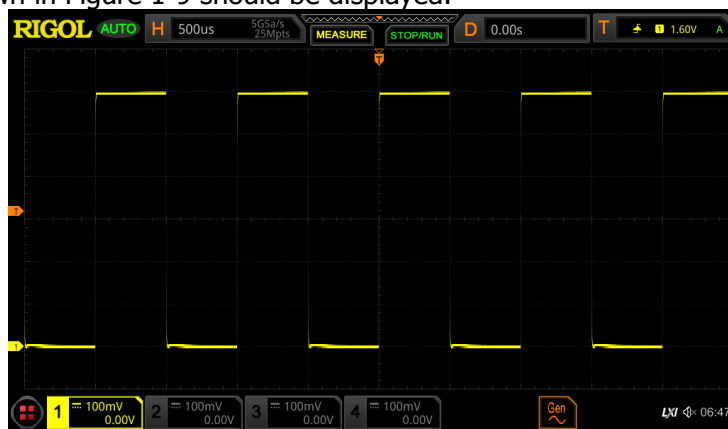

Figure 1-9 Square Waveform Signal
5. Observe the waveform on the display. In normal condition, the square waveform as shown in Figure 1-9 should be displayed.